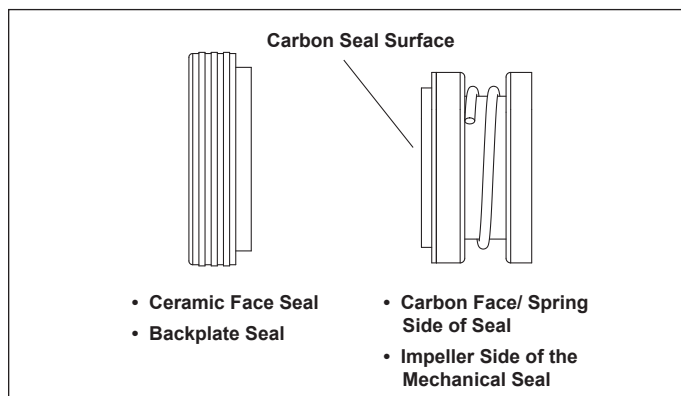

Figure 11. Replace the Mechanical Seal
1. Press the new carbon face seal half, see Figure 11 on the motor shaft using a twisting motion. Make sure the carbon surface is facing toward the ceramic ring in the backplate.
2. Remove the carbon face seal half, see Figure 11 from the motor shaft. This is a spring-loaded seal. Grasp the portion of the seal closest to the impeller body and pull the seal off using a twisting motion.